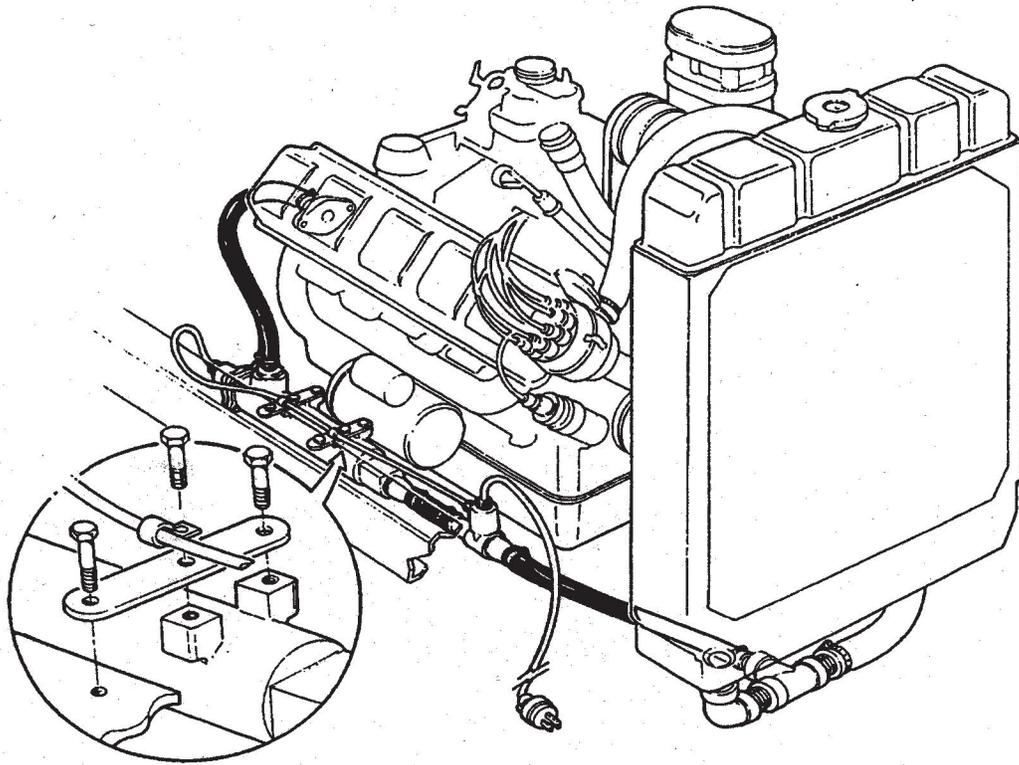

Figure 1 - Typical Installation with Optional Thermostat Kit.
1.2 **Mounting** - (see FIGURE 1)